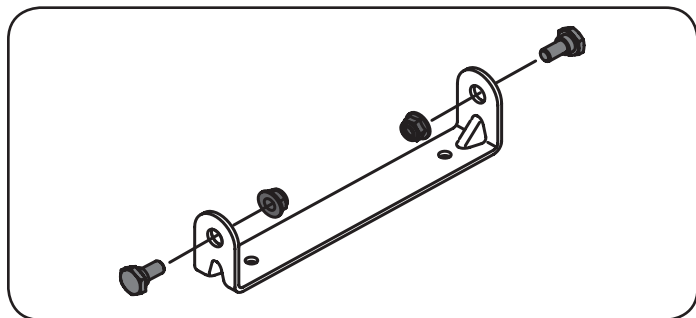

Figure 4
1. Remove the shoulder bolts and lock nuts from the seat mounting bracket included in your hardware pack. See Figure 4.